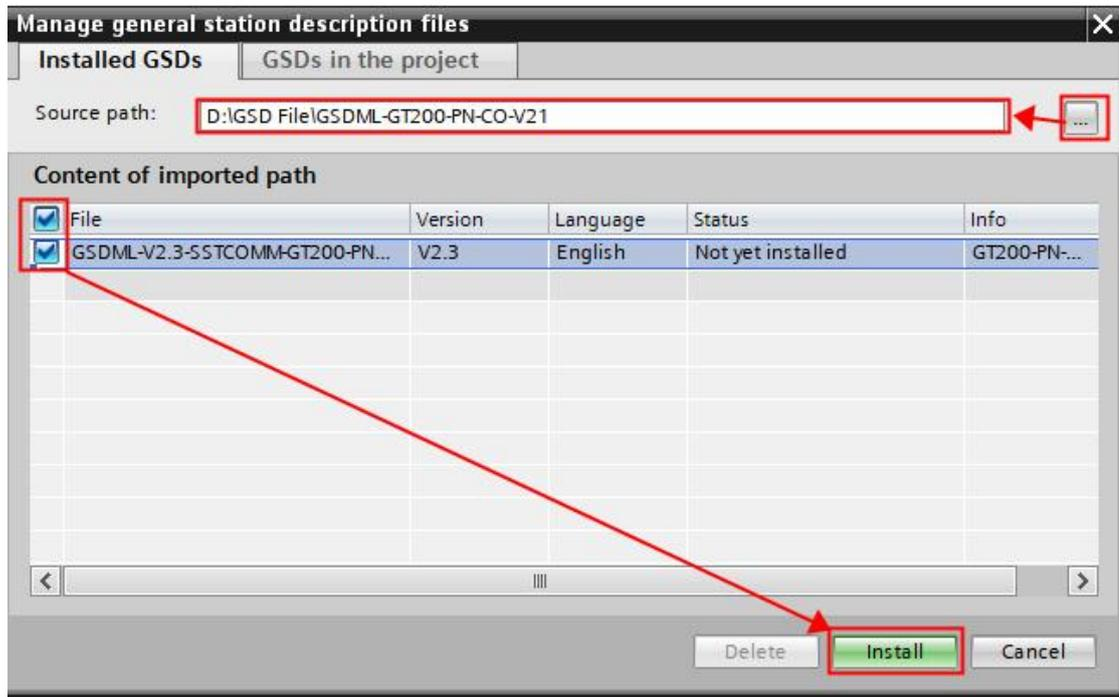

Figure 6: Select GSD file path and install
2.2 Click  in the pop-up window and select the folder where the decompressed GT200-PN-CO GSD file (.xml file) is located, and check the GSD file to be installed and click the install button at the bottom right to start the installation, as shown in Figure 6.